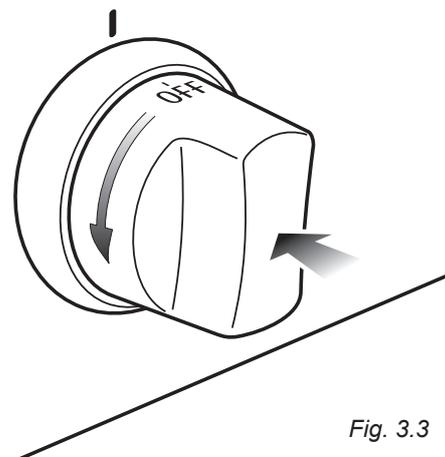

Fig. 3.3
2. Press the oven control knob right down and, keeping it pressed, turn counter-clockwise (fig. 3.3) to max position “8”.